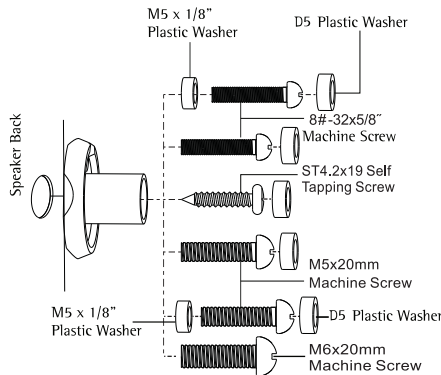

Figure 3
- Check the size of the hole and make sure the 8#-32x5/8" machine screw, the ST4.2x19 Self Tapping Screw, the M6x20mm, or the M5 x 20mm fits inside (Figure 3).